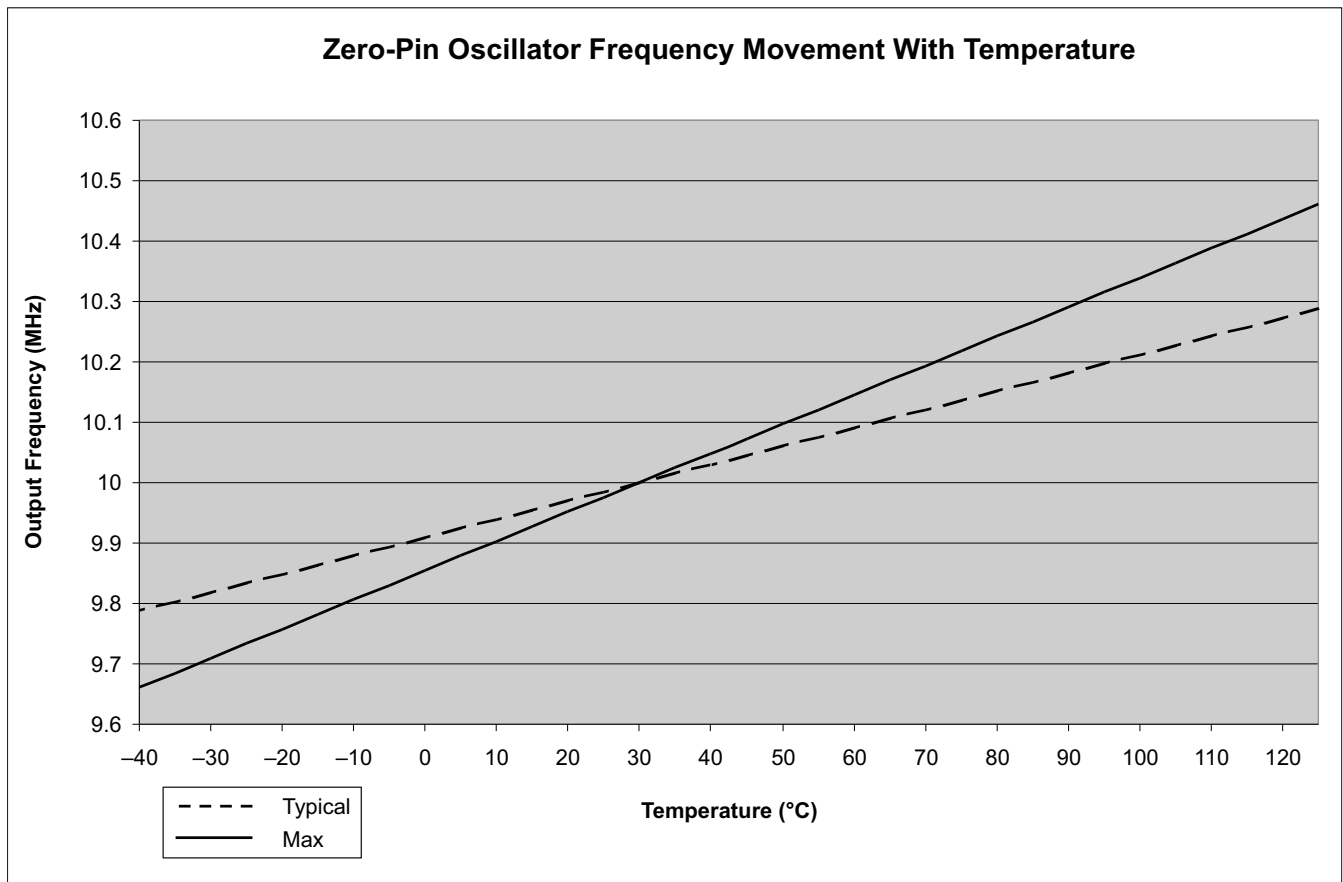

Figure 5-9. Zero-Pin Oscillator Frequency Movement With Temperature
- (1) Oscillator frequency will vary over temperature, see Figure 5-9. To compensate for oscillator temperature drift, see the Oscillator Compensation Guide and the controlSUITE™ example, Example_2803xOscComp.c.
- (2) Frequency range ensured only when VREG is enabled, VREGENZ = V_{SS}.
- (3) Output frequency of the internal oscillators follows the direction of both the temperature gradient and voltage (V_{DD}) gradient. For example: